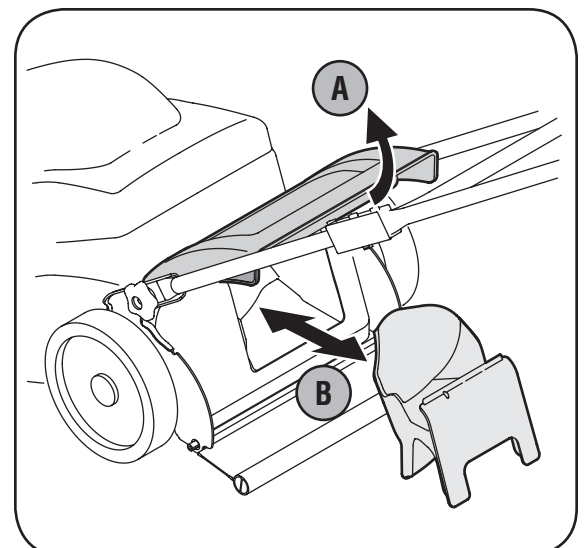

Figure 3-4: Removing mulching baffle.
- b. Remove mulching baffle. See Figure 3-4.